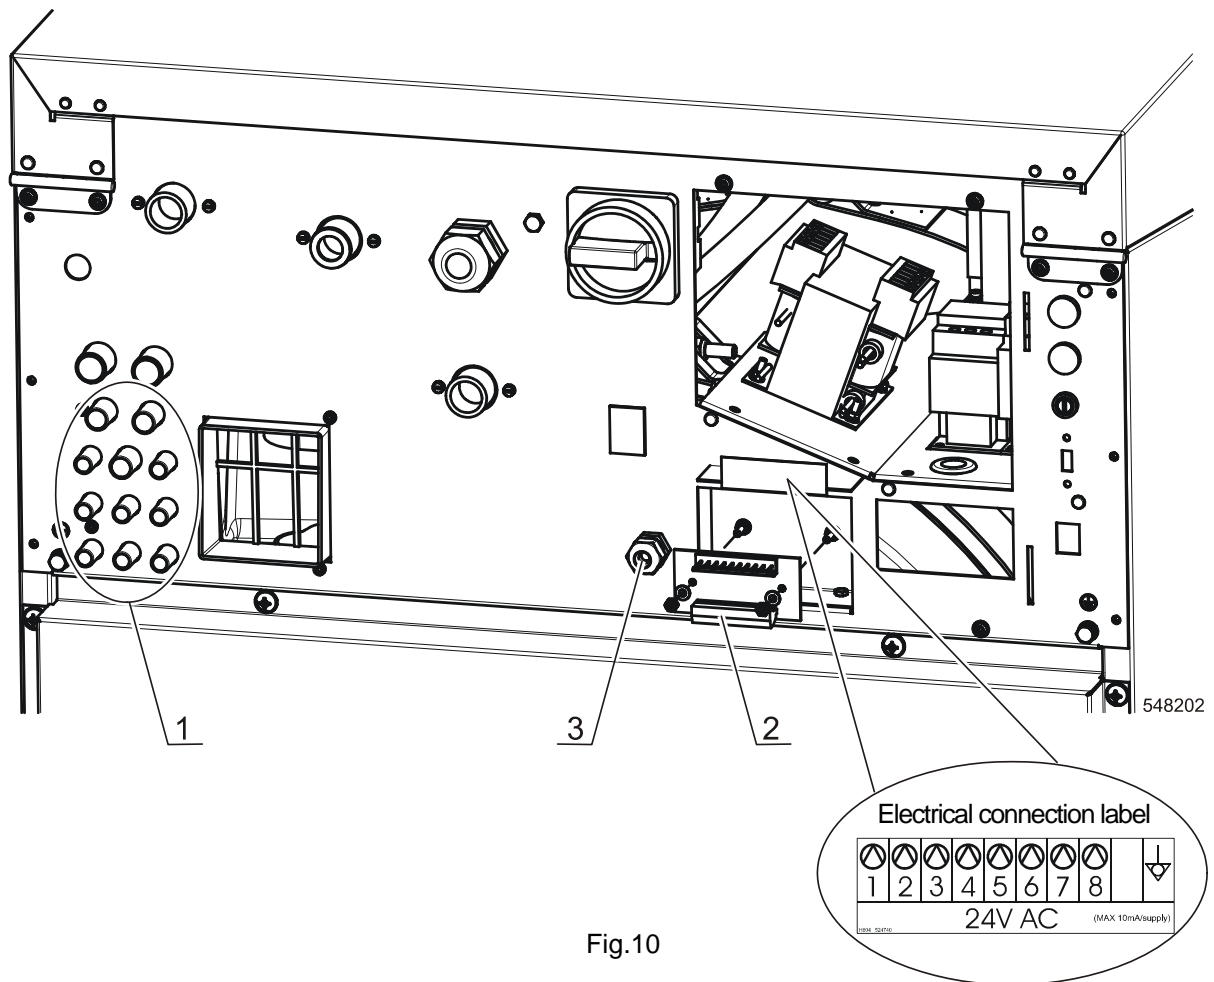

Fig.10
The washer has provisions for connecting external dosing of liquid soaps. On the back side, a plastic hose connection part is present, fig.10., pos.1. to connect the liquid soap hoses. Depending of the number of liquid soap pumps that will be used, drill holes (max. 8) of \varnothing 8 mm / 0.315" in the plastic hose connection part for each pump.
For electric connection of supply control signals is available on the back side of the machine the terminal box with LED signalization of activation of the respective pump, (see fig.10., pos.2). Above the terminal box there is a label for electric connection, fig.10. Detail connection of signals could be also found on the electric scheme of the machine. Signals for supply pumps control are 24V AC. Maximum current for control circuits of pumps must be limited to 10mA. Lead the cable for connection of pumps control signals through the plastic cable bushing, pos.3. After connection of conductors to the respective positions of the connector "P" (screw clamps), fix up the cable by tightening the cable bushing) against disconnection and close the box with the cover. For details about liquid soap supply system programming, see Programming manual.